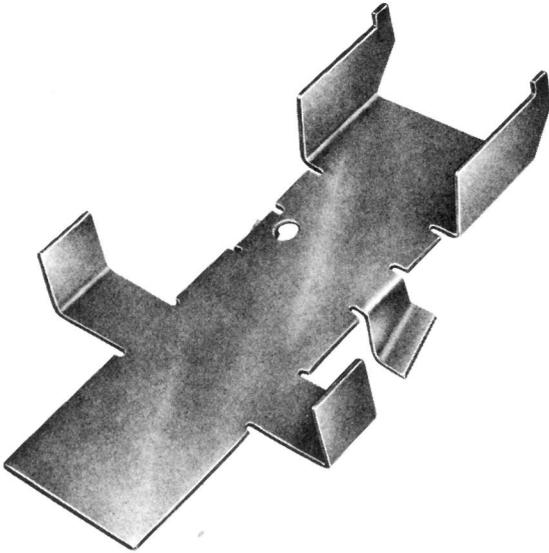

Fig. 2—109A Bracket
2.05 Install 109A bracket (Fig. 2) on 500-type telephone sets as follows: